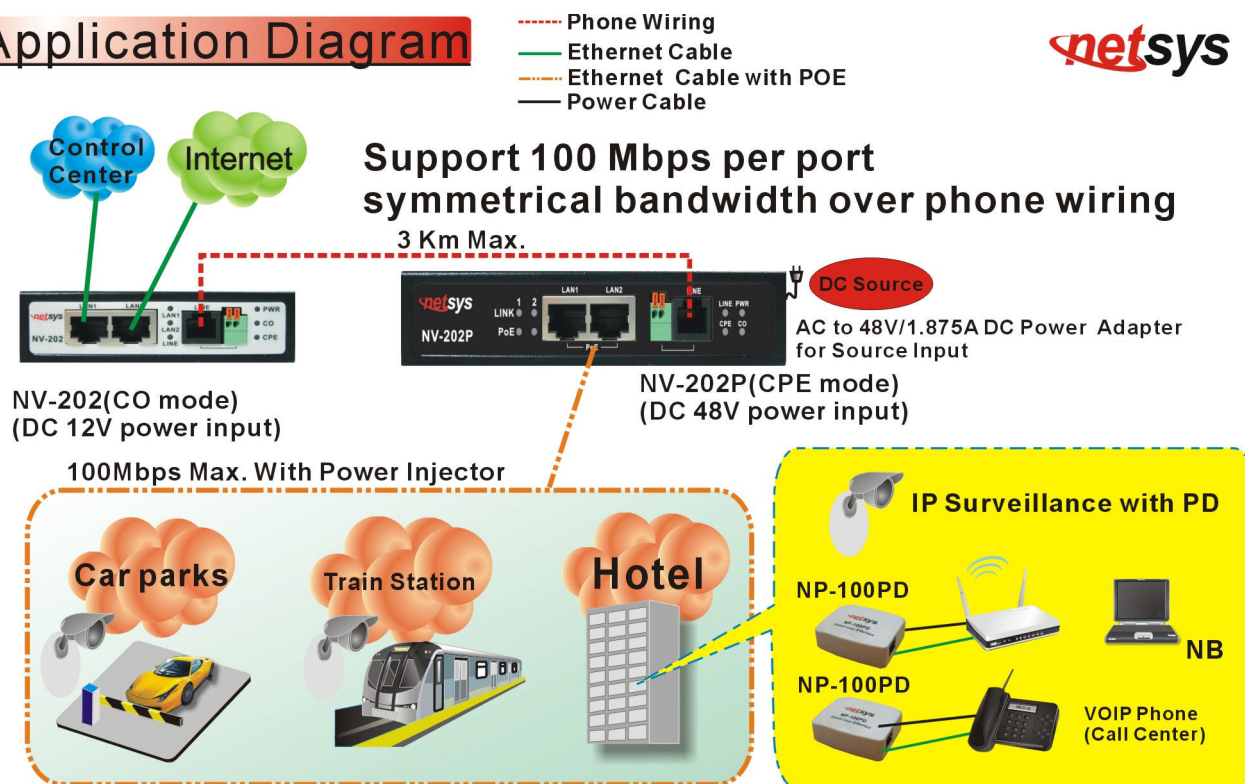

Figure 2.6 NV-202 / NV-202P point to point application diagram
1. User can use NV-202 bridge (CO mode) to connect NV-202P bridge (CPE mode), or use NV-202P bridge (CO mode) to connect NV-202 bridge (CPE mode) that to do a variety of applications. The bridge's line port supports 100Mbps maximum for data service across existing phone wiring. It is easy-to-use which do not require installation of additional wiring. Every modular phone jack in the home can become a port on the LAN. Networking devices can be installed on a single telephone wire that can be installed within suitable distance (depends on speed) (Figure 2.6)